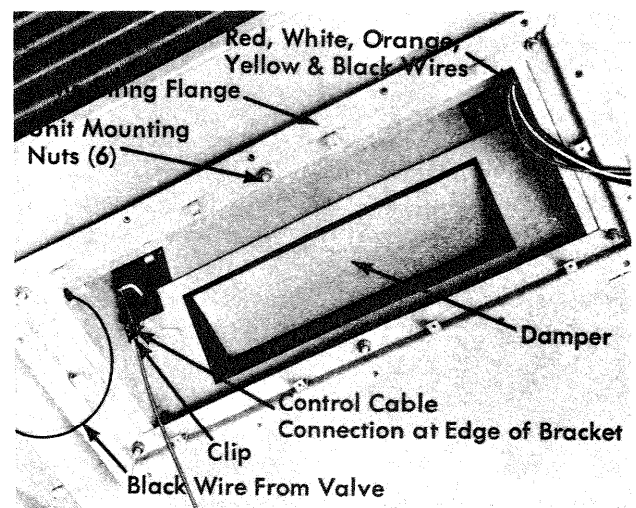

FIGURE 6
2.4.2 If the control cable is not already attached to the damper handle in the unit, slip the looped end over the crank handle and place the wire sheath over the bracket so that the end of the sheath is even with the side of the bracket. (See fig. 6.) A small spring steel clip is packed separately. The tongue of this clip should be inserted into the hole in the bracket and the clip end forced and snapped over the bracket end with pliers.
2.4.3 Extending into the roof opening are six wires with loose ends; 1 orange, 1 yellow, 2 red, and 2 black. These must be attached to their proper terminals on the console. (See fig. 6.) Holding the console just below its final position on the cab ceiling (the louvers will be toward the front of the unit and the selector lever will be toward the rear of the unit):